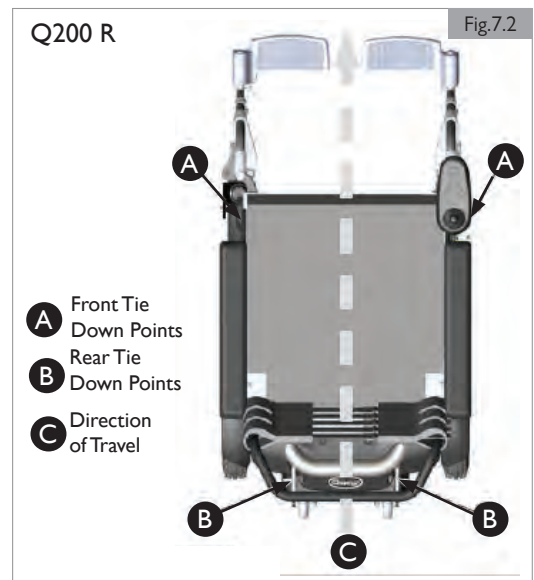

Fig.7.2
1. Secured with a 4-point strap restraint system (2 in the front, 2 in the back (Fig. 7.2), that conforms to:
1. The wheelchair can only be secured by using the tie-down points on the wheelchair's frame (Fig. 7.2)